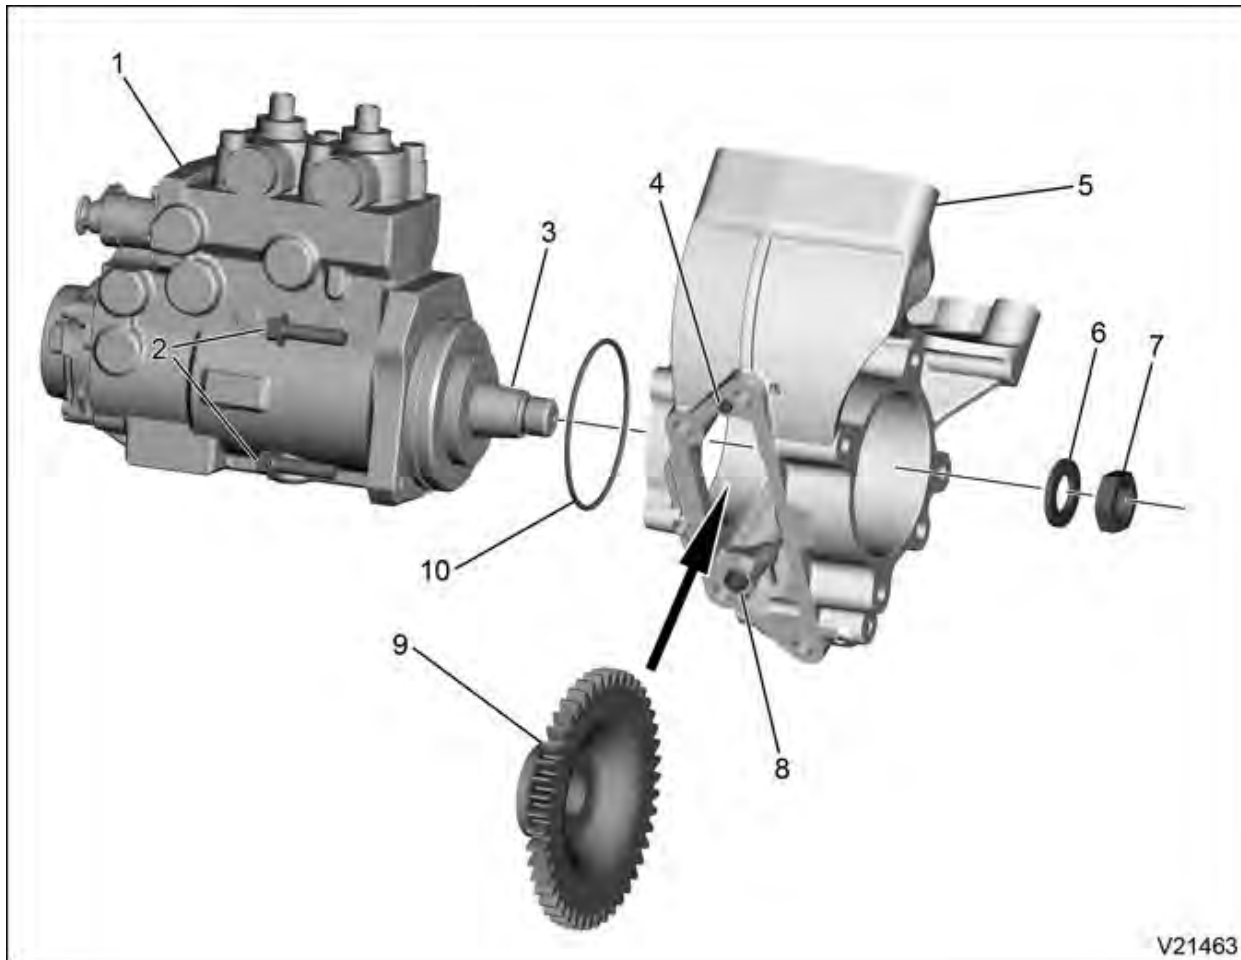

Figure 19. HP Fuel Pump and Drive Housing Assembly
1. Install a new 100 x 3.349 O-ring on new fuel pump mounting flange collar (Figure 19).